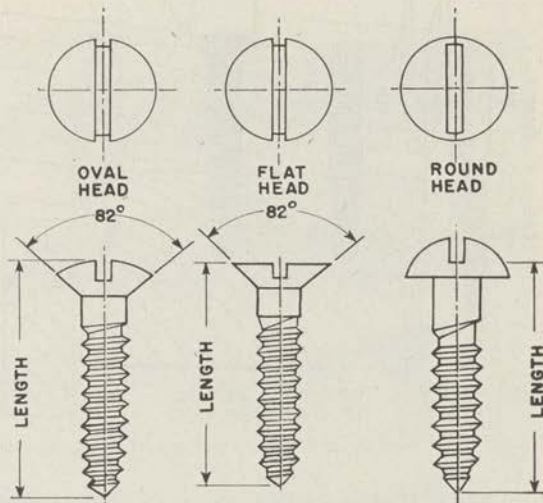

FIGURE 24.—Common wood screws.
e. Wood screws.—(1) Common types of wood screws are shown in figure 24. Various lengths can be had in each diameter, which is